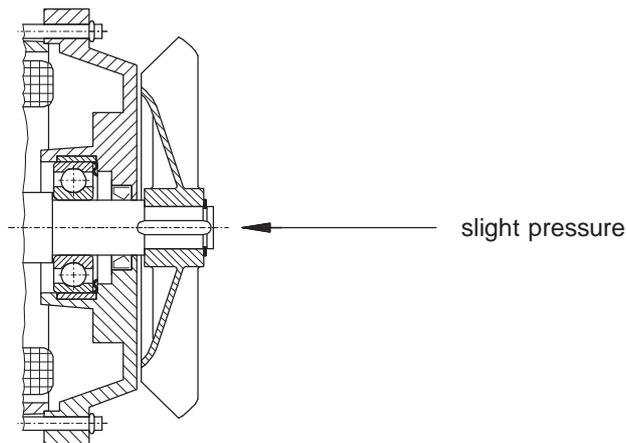

Figure 6.11.2–4: Pressure on motor shaft
7) Ease the overstress on the bearing by lightly pressing the shaft end by hand, see figure 6.11.2–4 “Pressure on motor shaft”.